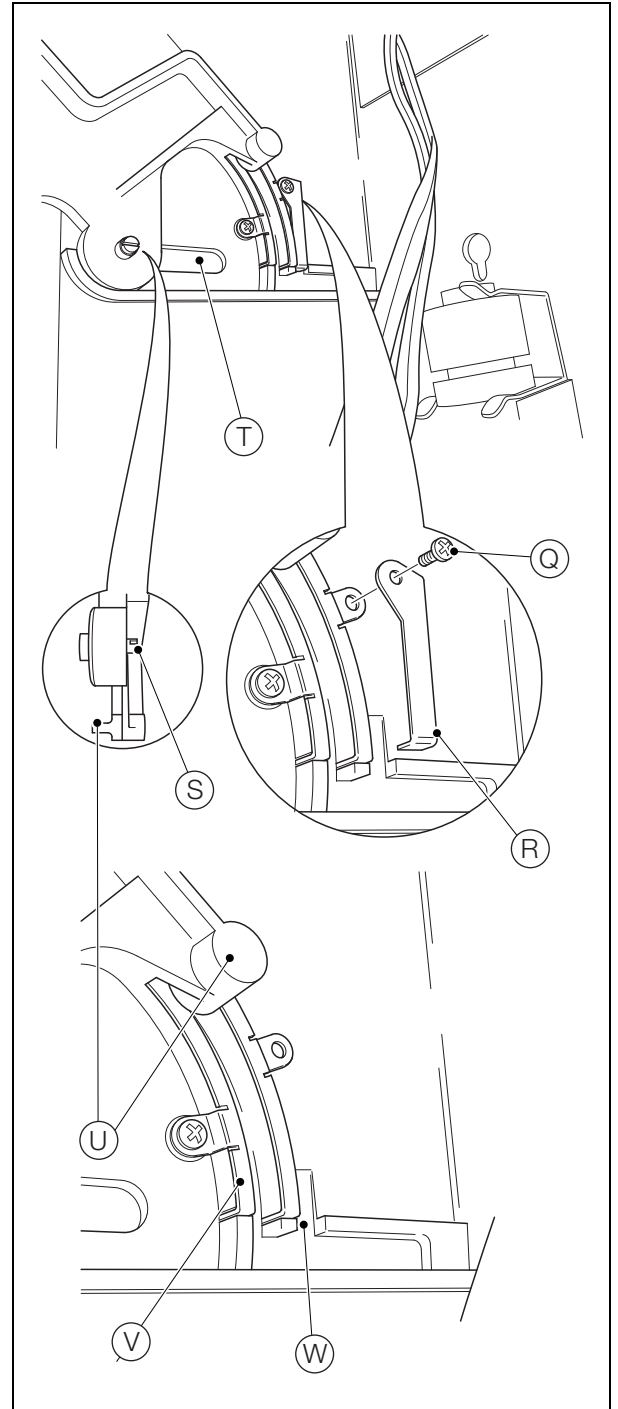

Fig. 4.6 Removing the Analytical Section
7. Referring to Fig. 4.6:
- a. Remove screw (Q) securing the analytical section retaining plate (R) to the analyzer case and remove the plate.
Note. Fig. 4.6 shows the left-hand side of the analyzer case (viewed from the front) but steps b to d apply also to the analytical section fittings on the right-hand side.